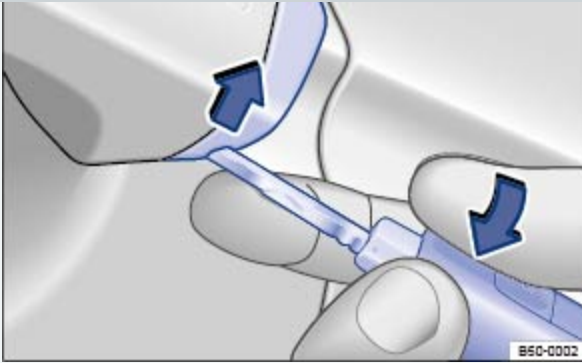

Fig. 209 Door handle on driver door: Removing the lock cylinder cover.
- If the vehicle has a concealed lock cylinder, insert the key bit from below into the opening of the cover cap on the driver door ⇒ *Fig. 209* (arrow) and lift the cover cap off. Grasping the door handle and pulling slightly makes it easier to remove the cap.